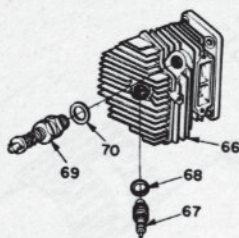

Fig. HL86A—View of compression release valve used on models listed in text.
Fig. HL86—Exploded view of typical engine assembly. Some models are not equipped with automatic chain oiler pump assembly (items 85 through 93). Note that to remove the guide bar studs (83), the stud retainers (84) must be unscrewed from crankcase and tank assembly (74); do not attempt to unscrew the studs. Refer to Fig. HL86A for XL-903 and XL-904 models with compression relief valve. Fig. HL89 shows later type crankcase with removable fuel tank and with sawdust shield used in place of gasket (85).
early XL-924W and VI-944 are equipped with a compression relief (decompression) valve. The poppet type relief valve is mounted in a port adjacent to exhaust port as shown in Fig. HL86A. The valve is opened as throttle lock plunger is depressed to lock position. If valve fails to close when throttle lock plunger is released, either remove valve and clean using a carbon solvent or renew the valve assembly. Copper sealing washer is available separately.